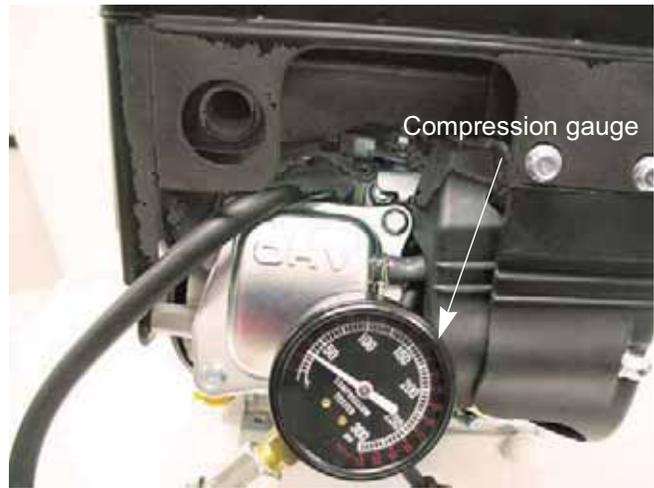

Figure 2.2
2. Confirm that the gauge is "zeroed", then pull the starter rope repeatedly, until the needle on the gauge stops rising. See Figure 2.2.